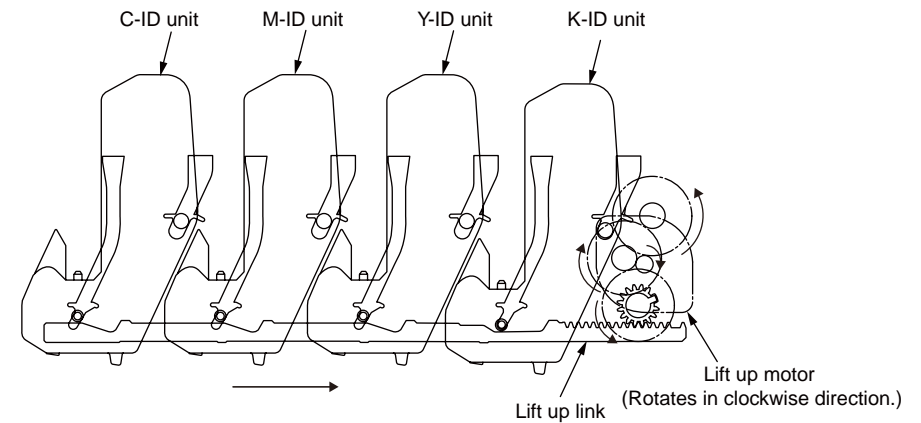

Fig. 2-7
3. Operations of the respective ID units during monochrome print are shown in Fig. 2-7. When the lift up motor rotates (in clockwise direction), the lift up link slide to the right and moves down the respective ID units as shown in Fig. 2-7. This condition means that monochrome print is ready .